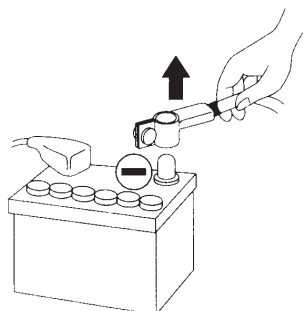

fig. 1
- **Before commencing installation, disconnect the negative battery terminal to avoid risk of injury, fire or material damage. (Fig. 1)**
- 2 - Disconnect the cable from the negative terminal on the vehicle battery before beginning installation (**Fig. 1**).
Before beginning the connection phase, remove the negative (-) terminal from the battery of the vehicle (fig.1).